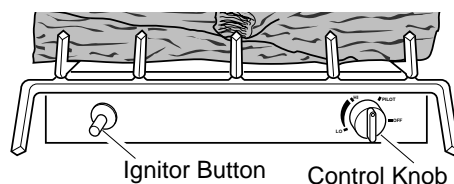

Figure 30 - Control Knob and Ignitor Button Location
4. Wait five (5) minutes to clear out any gas. Then smell for gas, including near the floor. If you smell gas, **STOP!** Follow "B" in the safety information above. If you don't smell gas, go to the next step.
5. Slightly depress and turn control knob counterclockwise  to the PILOT position. Press in control knob for five (5) seconds (see Figure 30).